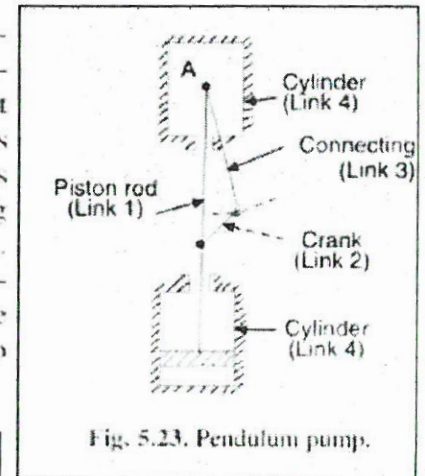

Fig. 5.23. Pendulum pump.
1. **Pendulum pump or Bull engine.** In this mechanism, the inversion is obtained by fixing the cylinder or link 4 (i.e., sliding pair), as shown in Fig. 5.23. In this case, when the crank (link 2) rotates, the connecting rod (link 3) oscillates about a pin pivoted to the fixed link 4 at A and the piston attached to the piston rod (link 1) reciprocates. The duplex pump which is used to supply feed water to boilers have two pistons attached to link 1, as shown in Fig. 5.23.